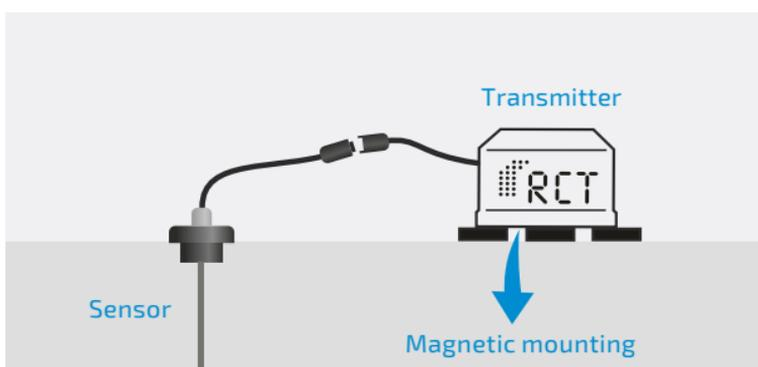

Fig. 8 | Attaching the transmitter unit
**Mounting:** Attach the transmitter to the tank or the wall of the manhole chamber using the magnets integrated in the battery pack (see arrows below) (Fig. 8), or with the help of an optional bracket.